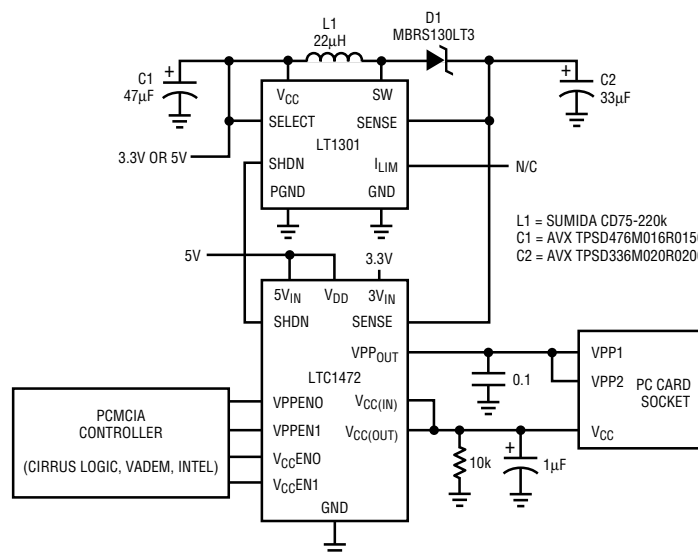

Figure 1. Typical LTC1472 Application with the LT1301 3.3V Boost Regulator
The LTC1472 is a complete, fully integrated VCC and VPP switch matrix that addresses all of the PCMCIA socket switching needs. Figure 1 shows a typical LTC1472 application used in conjunction with the LT®1301 to supply 12V for flash memory programming. The LTC1472's logic inputs allow direct interfacing with both logic high and logic low industry standard controllers without any external glue logic. The LTC1472 is available in the space saving narrow 16-pin SOIC package. The VCC switch's RDS(ON) is 0.14Ω to support the 1A current requirement. The VCC output is switched between 3.3V, 5V and high impedance. The VPP output pin is switched between 0V, VCC, 12V and high impedance. Table 1 shows the VCC and VPP truth tables.